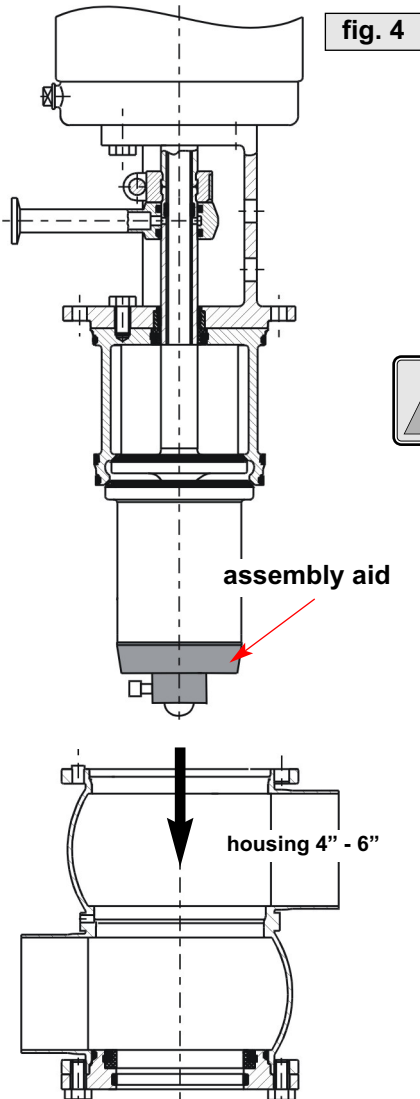

fig. 4
- Fasten the centering arbor with the inner hex. screw at the lower valve shaft (see fig. 4).